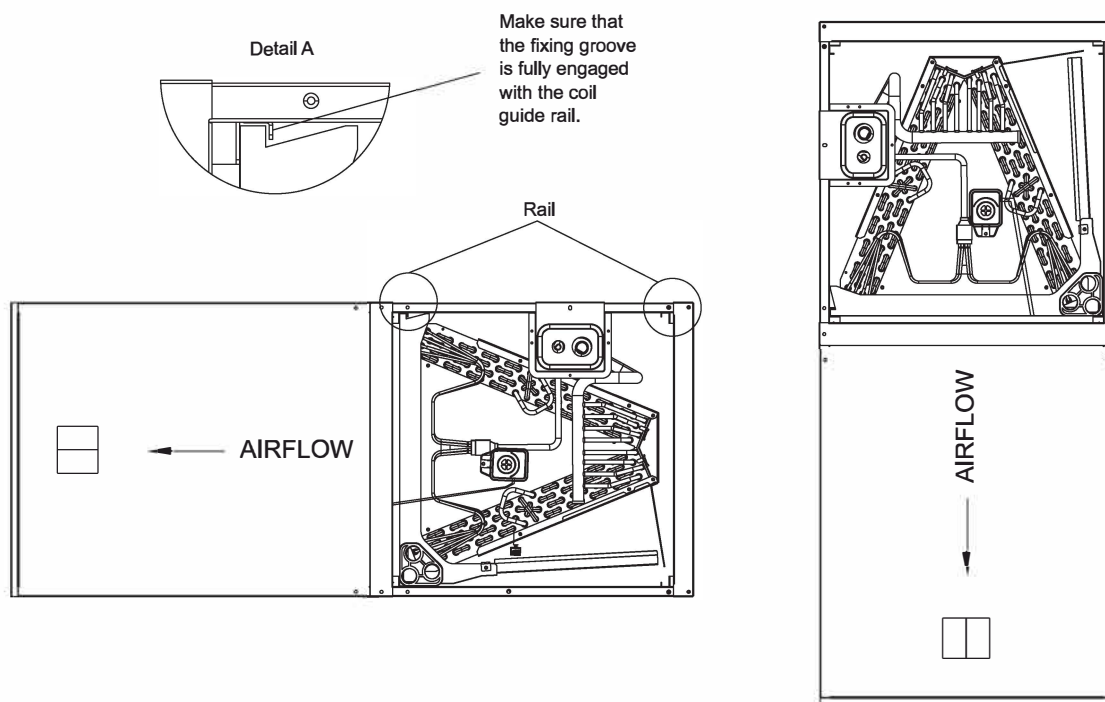

Figure 3.4 Vertical downward and horizontal left application
- Re-install the indoor coil by rotating 180° from the original position. Ensure that the fixing groove is fully engaged with the coil guide rail. See figs. 3.4.